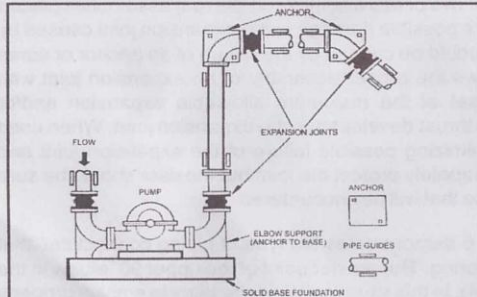
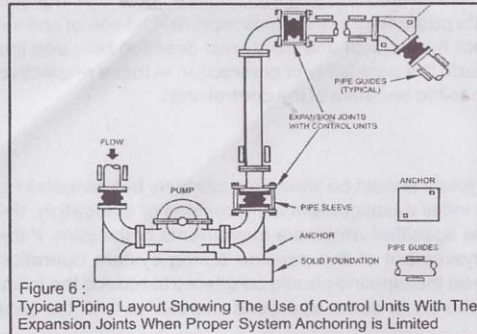

Figure 4 : Typical Piping Layout Utilizing Expansion Joints When Equipment and Piping are Properly Anchored
Figure 6 : Typical Piping Layout Showing The Use of Control Units With The Expansion Joints When Proper System Anchoring is Limited
**A.1. Anchor are required.** Figure 4 on illustrates a simple piping system. You will notice that in all cases, solid anchoring is provided wherever the pipeline changes direction and that the expansion joints in that line are located as close as possible to those anchor points. In addition, following the expansion joints, and again as close as is practical, pipe guides are employed to prevent displacement of the pipeline. It should be pointed out that the elbows adjacent to the pump are securely supported by the pump base so that no piping forces are transmitted to the flanges of the pump itself. Anchors shown at the 90° and the 45° bend in the pipeline must be solid anchors designed to withstand the thrust developed in the line together with any other forces imposed on the system at this point.
**B. 2. Illustration Of The Use Of Control Rods.** Figure 6 demonstrates the type of piping connections that must be used in the event it is impossible to employ anchoring. The anchor point at the upper 90° elbow in the discharge line has been eliminated. (It is shown in Figure 4). In this situation, it is necessary to employ properly designed control units with the joints located in this non-anchored line. Without the use of these control units, the pipeline between the pump and the anchor at the 45° bend would be severely displaced due to elongation in the flexible rubber expansion joint. This elongation would proceed until the joints rupture. The use of control units in this case permits expansion of the pipeline in both the vertical and horizontal direction between the pump and the anchor at 45° bend. However, it does preclude the possibility of contraction in these respective lines as the further extension of the expansion joint is impossible because of the control units.